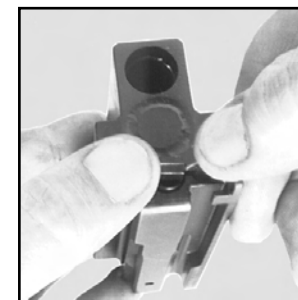

Fig. 29
- 3 • Remove firing pin assembly and firing pin spring to the rear. To do this, push the locking catch to the right (Fig. 29). With your thumb prevent the firing pin assembly with firing pin spring from springing out.